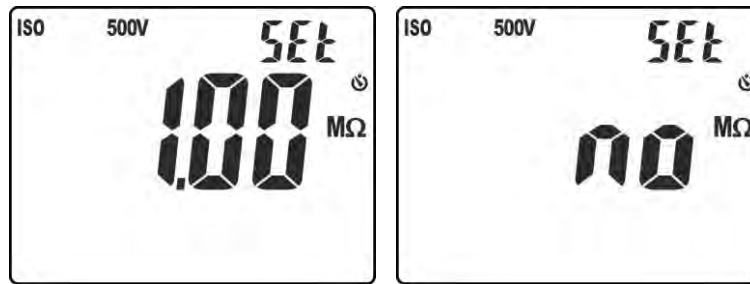

Fig. 16: Setting the limit threshold for insulation measurement
5. Press keys ∇/OFF or $\blacktriangle/\text{ZERO}$ to select the value among the options: **0.10M Ω** , **0.230M Ω** , **0.50M Ω** , **1.00M Ω** , **100M Ω** , **no**. Option “no” indicates that no threshold was set (see Fig. 16).
4. Press and hold key **VTEST/LIM** (>2s) to set the **minimum** limit threshold for measurement. The symbol “Set” flashes on the display. Press keys **▼/⚡** or **▲/ZERO** to select the value among the options: **0.10MΩ, 0.230MΩ, 0.50MΩ, 1.00MΩ, 100MΩ, no**. Option “no” indicates that no threshold was set (see Fig. 16).
4. Press and hold key **VTEST/LIM** (>2s) to set the **minimum** limit threshold for measurement. The symbol "Set" flashes on the display. Press keys **▼/☒** or **▲/ZERO** to select the value among the options: **0.10MΩ, 0.230MΩ, 0.50MΩ, 1.00MΩ, 100MΩ, no**. Option "no" indicates that no threshold was set (see Fig. 16).